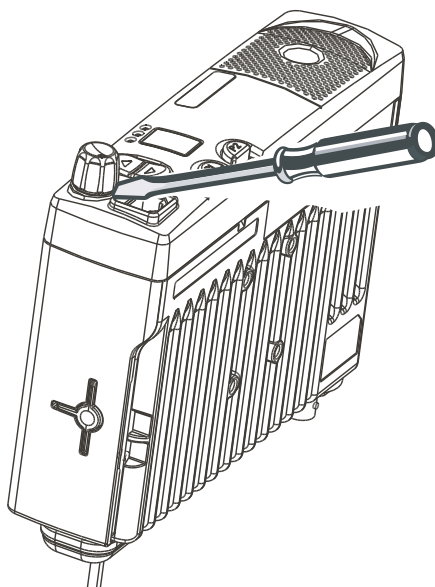

Figure 2-1 Volume Knob Removal.
1. Insert the flat screwdriver between the control head plastic and the volume knob and push the volume knob upwards. See Figure 2-1.